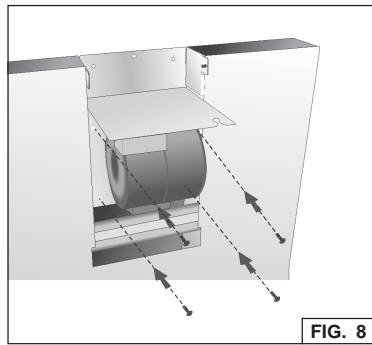

FIG. 8
- use the same screws to fix the motor block in the new position (Fig. 8).